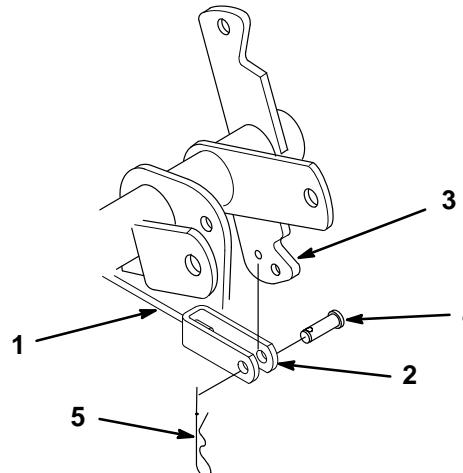

Figure 20
7. Disconnect the lift cable by removing the clevis pin from the clevis and remove the cable from the attachment lift arm (Fig. 20).